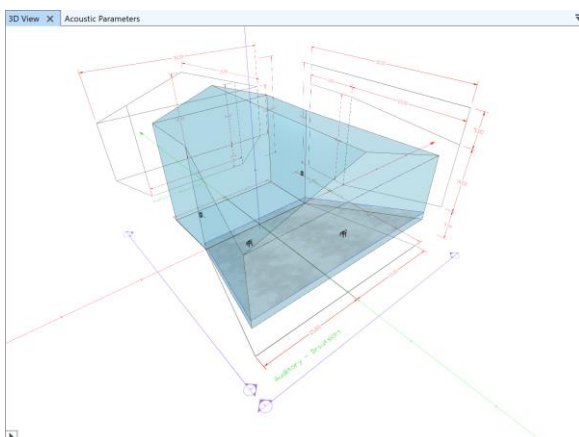

Figure 4.12 Central Wide Perspective.
- In **CENTRAL WIDE** mode, the central perspective and a wide viewing angle will be used. This typically corresponds to situations where the viewer is close to the building or inside the room (Figure 4.12).